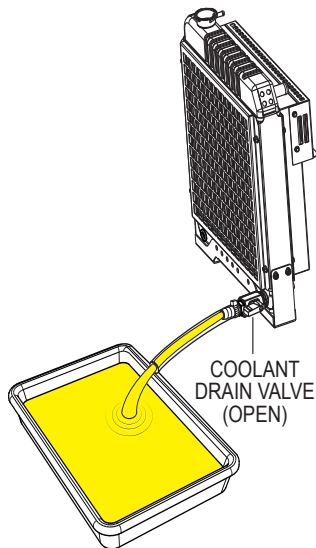

Figure 70. Draining Engine Coolant
1. Place the **coolant drain valve** in the **OPEN** position (Figure 70) and allow the coolant to drain into a suitable container.